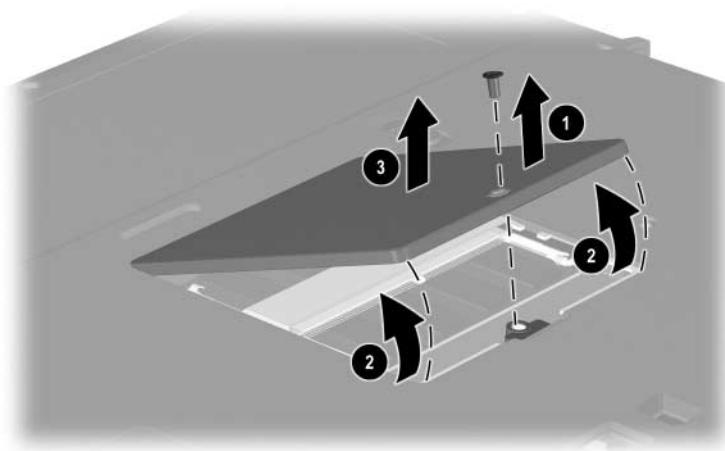

Figure 5-8. Removing the Memory Expansion Compartment Cover
3. Remove the PM2.0 × 5.0 screw 1 that secures the memory expansion compartment cover to the base enclosure (Figure 5-8).